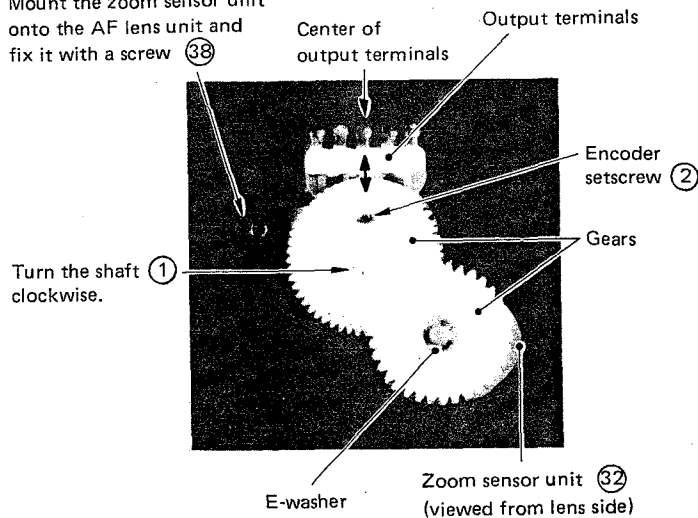

Fig. 2 Zoom sensor unit (viewed from lens side)
2. Loosen encoder setscrew ② of the zoom sensor unit (see Fig. 2).
3. Mount the zoom sensor unit on the optical block assembly and fix it by tightening and locking a screw (Symbol No. 38, Parts No. PU55550-029 on the Parts List). Through this procedure keep the encoder setscrew ② in the direction toward the center of the output terminals.
4. Holding the shaft ① turned fully clockwise (encoder stop position) tighten and lock the encoder setscrew ②.